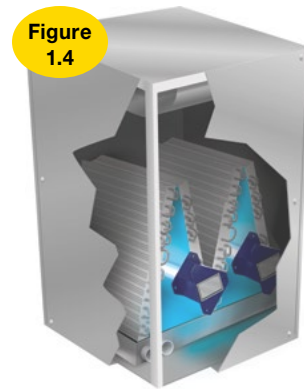

Figure 1.4
STEP 3: Using the Scorpion's integrated magnet, attach the Scorpion to the metal "A" panel on the far side of the evaporator coil. For a "W" or "N" shaped coil, install a second Scorpion inside the second section of coil. See example image in Figure 1.4.
For a "W" or "N" shaped coil, install a second Scorpion inside the second section of coil after drilling the 1 1/4" hole in the second panel, inserting the grommet, and securing the Scorpion. See example image in Figure 1.4.